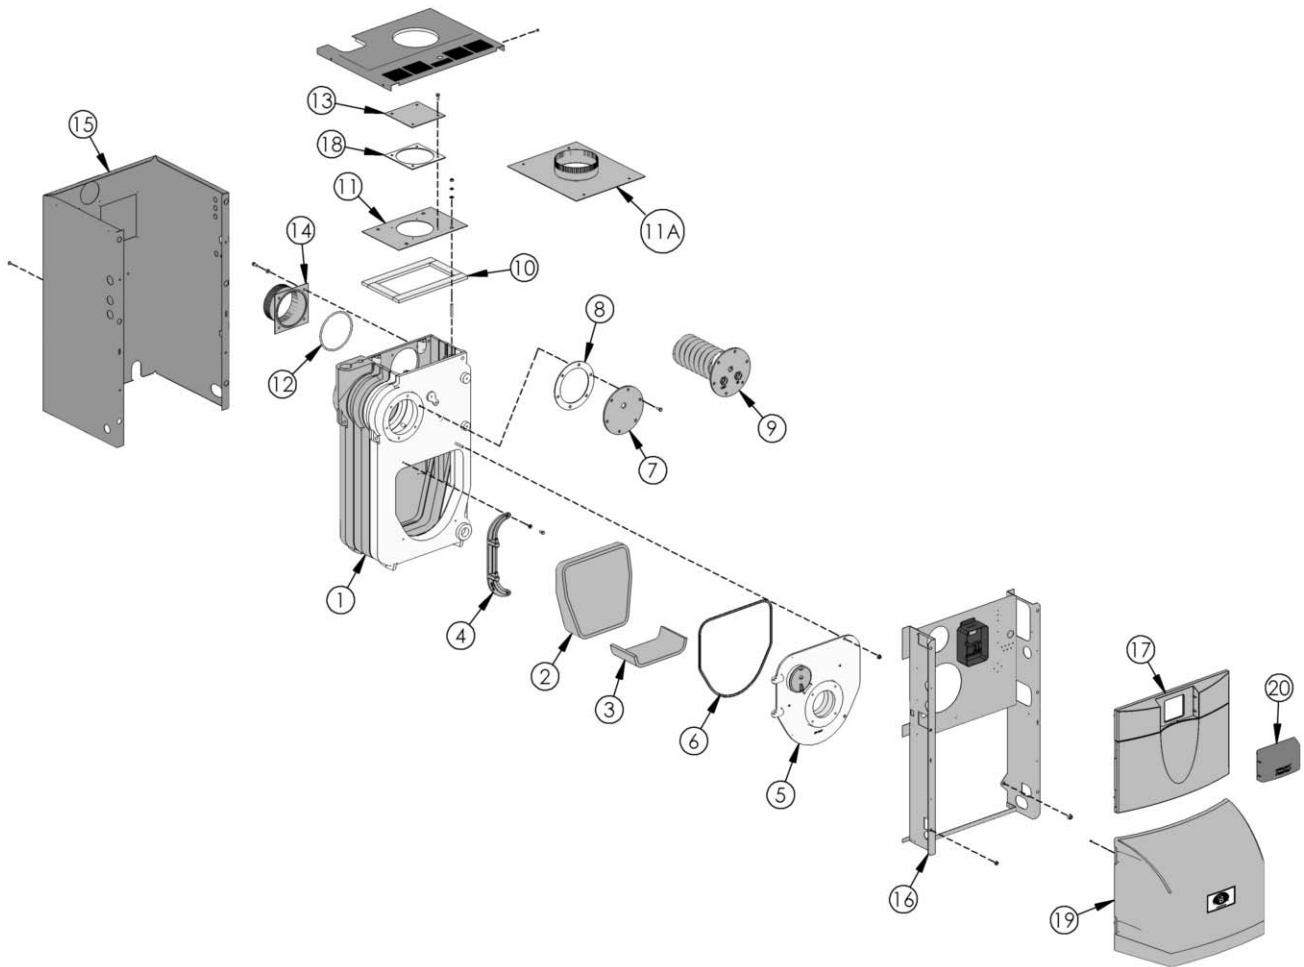

Figure 8.1: Water boiler
*See Figure 8.1 boiler exploded view.